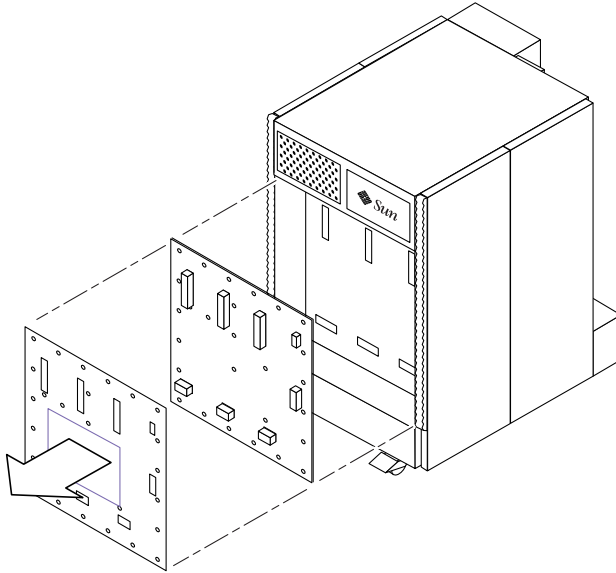

FIGURE 12-26 Removing the Centerplane and Insulator—Sun Fire 4800 System
13. Remove the insulator and the centerplane together (FIGURE 12-26).
2. Align the insulator and the centerplane with the three guide pins that are on the interior flange (FIGURE 12-26).